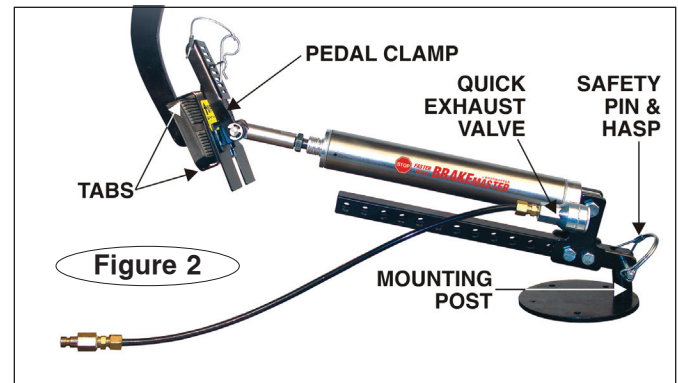

Figure 2
5. On the initial installation, it may be necessary to adjust the tabs (Figure 2) on the pedal clamp (Figure 2) – use pliers to bend any or all of the tabs so that they hook around and under the towed vehicle's brake pedal.
8. The quick exhaust valve (Figure 2) on the air cylinder can be rotated for easier connection to the air line. (Rotate the valve so that the air line is not kinked.)
9. Install the mounting post (Figure 2) so that the air cylinder must be pulled back in order to insert the safety pin and
hasp (Figure 2). This creates spring tension, which keeps the weight of the cylinder off the brake pedal.